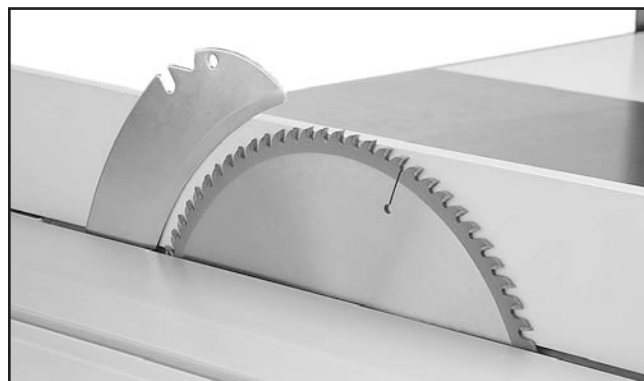

Figure 40. Fence used to align blades.
31. Move the rip fence against the main blade (or scoring blade) as shown in **Figure 40**.